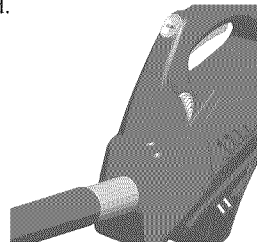

Figure 25 - Assembled Main Handle and Handle Adapter
6. Slide main handle into handle adapter until units “snap” together (see Figure 25). **IMPORTANT:** Both release buttons on main handle must be fully engaged.